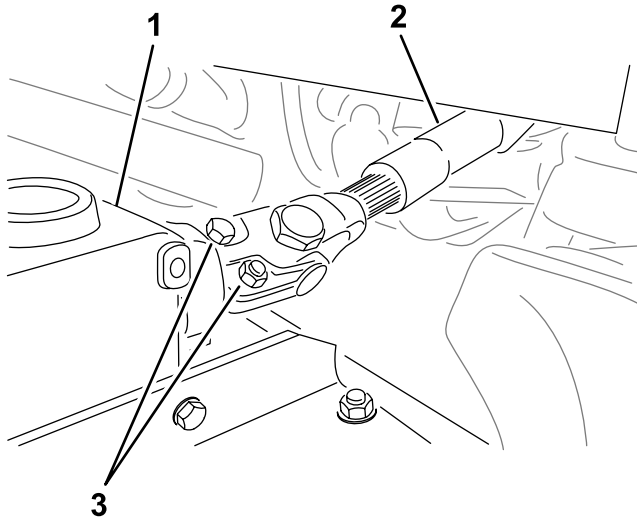

Figure 16
3. When you install the PTO shaft to the gearbox, assemble each pair of bolts (5/16 x 2 inches) and nuts (5/16 inch) opposite each other (Figure 16) and torque the nuts to 40 N·m (30 ft-lb).